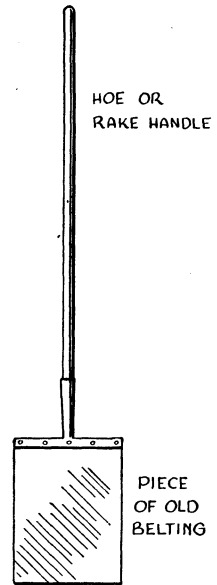

FIGURE 13.—
Tools.—Anyone who may have to fight a fire should keep a few fire-fighting tools in some handy place where they can always be found. Useful implements are a good hoe or rake to clean firebreaks, an ax for chopping down burning snags, a shovel to throw dirt on the fire, and a water bucket for wetting down smouldering embers. In the South many farmers make their own fire swatters by fastening a 10- by 18-inch piece of old belting to a hoe handle (fig. 13). Some use a large burlap bag or a pine top for this purpose. (Fire fighters should have plenty of drinking water available.)
3. Find its contents by the table on page 34. Suppose it is 13 inches in diameter at the small end and 16 feet long. Run down the left-hand column (diameter) to the figure 13. Move across to the 16-foot column. The figure there is the estimated number of board feet that can be sawed from the log, in this case, 81.